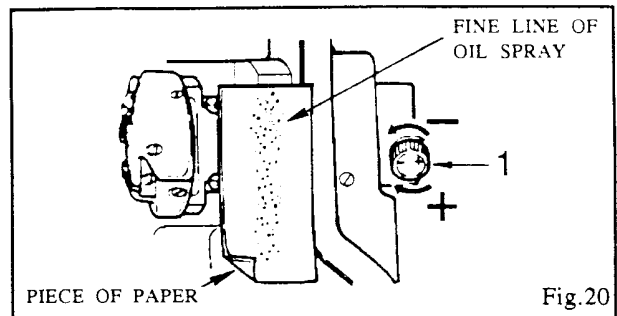

Fig.20
A fine line of oil spray should show on the paper. Depending on the oil spray pattern on the paper, increase or decrease oil flow by turning the oil flow regulating thumb screw (1) as shown in Fig. 20.